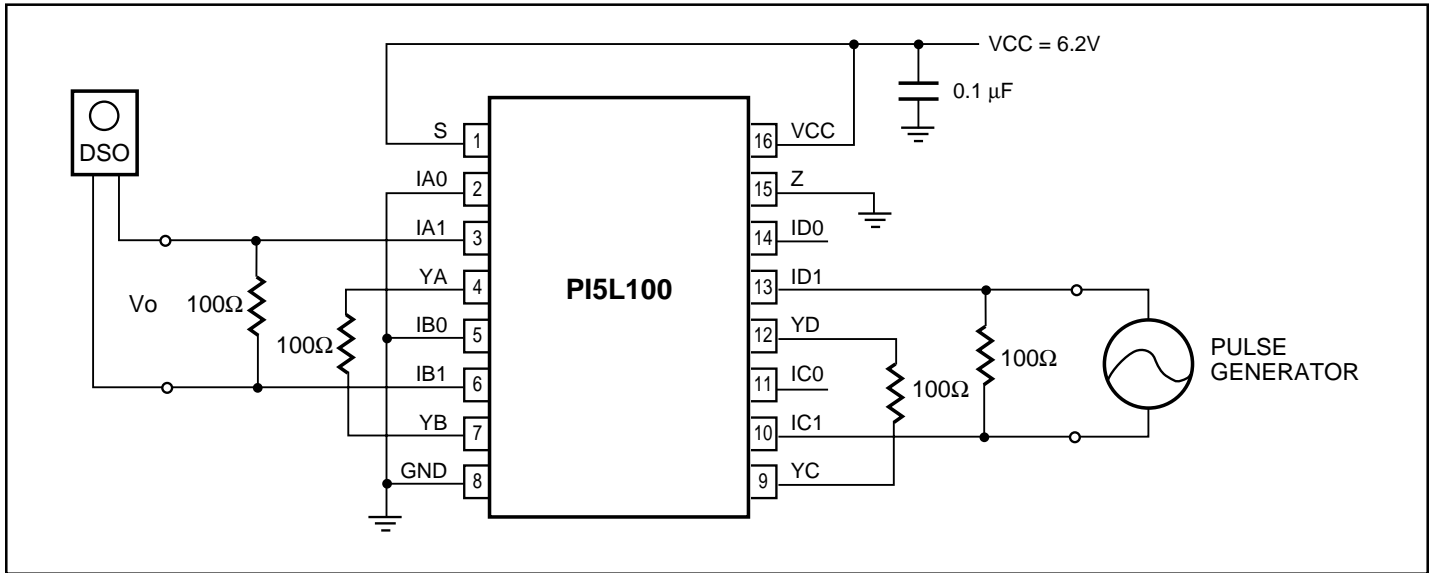
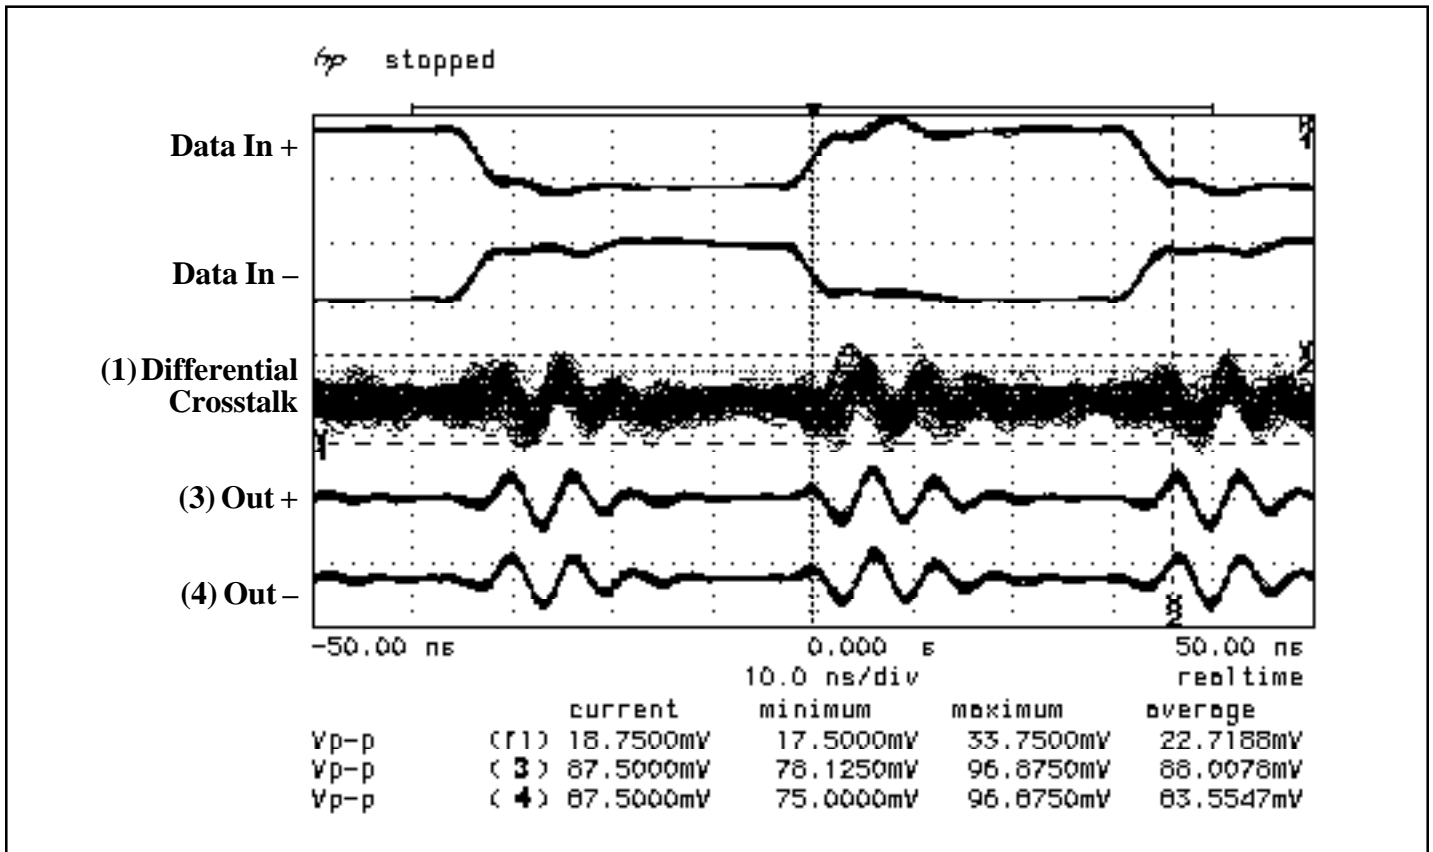

Figure 11. Differential Crosstalk Measurement
Figure 15. Crosstalk Waveform
The PI5L100 was designed to switch between various standards such as 10Base-T, 100Base-T, 100VG-AnyLAN, and Token Ring. Also general purpose applications such as loopback, line termination, and line clamps that might normally use mechanical relays are also ideal uses for this LAN Switch (see Figure 11 applications). Generally speaking, this LAN Switch can be used for data rates to 200 Mbps and data signal levels from 0V to 4.5V.
Adjacent pins cause the most crosstalk because of the interlead package capacitance which is generally in the order of 0.5 pF (pin-to-pin). It can be seen in Figure 11 that this Evaluation (EV) Board schematic uses four pairs of switches. The pair 1B/2B are RX1 that connect to YA and YB. The second pair 3B/4B are TX1 and connect to YC and YB. Pairs 3 and 4 are grounded for this differential crosstalk test. The purpose of this EV board is to determine the amount of crosstalk between the transmit and receive pairs in a full duplex application. Figure 15 shows the scope waveforms. Traces 1 and 2 are single ended inputs to the differential inputs of the DUT. Trace 3 is the differential XTALK output which equates to $20\text{LOG } V_{\text{OUT}}/V_{\text{IN}} = 20\text{LOG } 30 \text{ mV}/5\text{V} = -44\text{dB}$. Since the edge rate is 2 ns, the effective input frequency is equal to $0.3/\text{tr}$ which is $\sim 150 \text{ MHz}$. So the